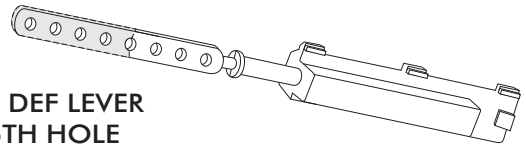

FIGURE 3
- LOCATE THE TWO SLIDE POT ASSEMBLIES, AND USING A PAIR OF WIRE CUTTERS, CUT SLIDE POT ACTUATOR RODS AS SHOWN BELOW IN FIGURE 3.